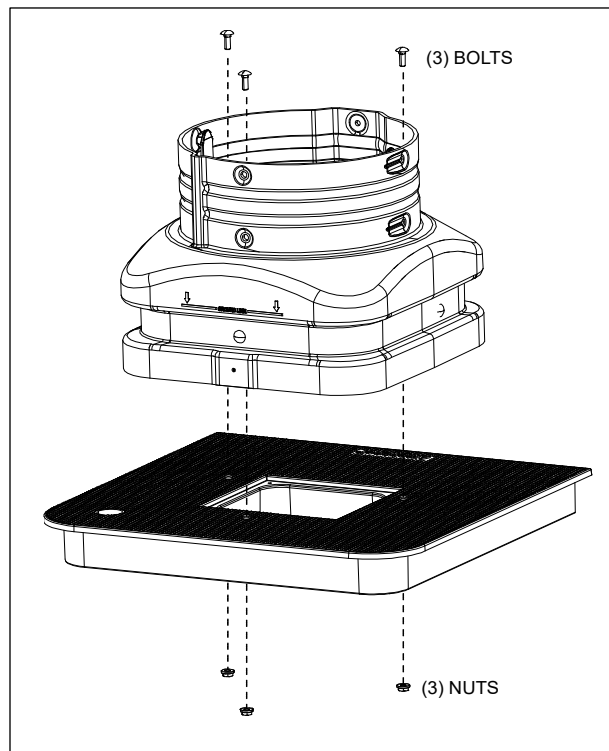

Figure 3 Mount Pedestal on BGE Cover
2. Mount the pedestal base onto the BGE using one bolt (inserted through the base) and one nut (secured below the BGE cover panel) per L-bracket (Figure 3). Torque hardware to 60 lb-in.